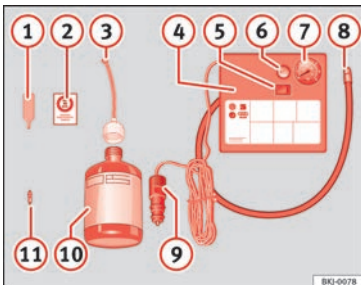

Fig. 75 Standard representation: contents of the anti-puncture kit.
- Unscrew the tyre valve cap and insert. Use the **»» Fig. 75 ①** tool to remove the insert. Place it on a clean surface.
- Shake the tyre sealant bottle vigorously **»» Fig. 75 ⑩**.
- Screw the inflator tube **»» Fig. 75 ③** into the sealant bottle. The bottle's seal will break automatically.
- Remove the lid from the filling tube **»» Fig. 75 ③** and screw the open end of the tube into the tyre valve.
- Place the insert back into the tyre valve using the tool **»» Fig. 75 ①**.
- Screw the compressor tyre inflator tube **»» Fig. 75 ⑧** into the tyre valve.
- Check that the air bleed screw is closed **»» Fig. 75 ⑥**.
- Insert the connector **»» Fig. 75 ⑨** into the vehicle's 12-volt socket **»» ① page 160**.
- Turn the air compressor on with the ON/OFF switch **»» Fig. 75 ⑤**.
- Check the pressure again after 10 minutes **»» ① page 99**.